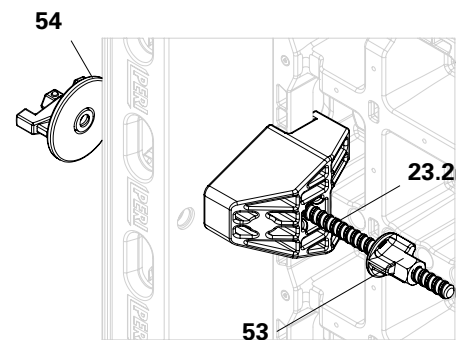

Fig. A3.09c
5. Push the DUO corner tie (**23.2**) through the DUO corner connector (**23**) and the DMP multi panel (**12.2**). (Fig. A3.09c)